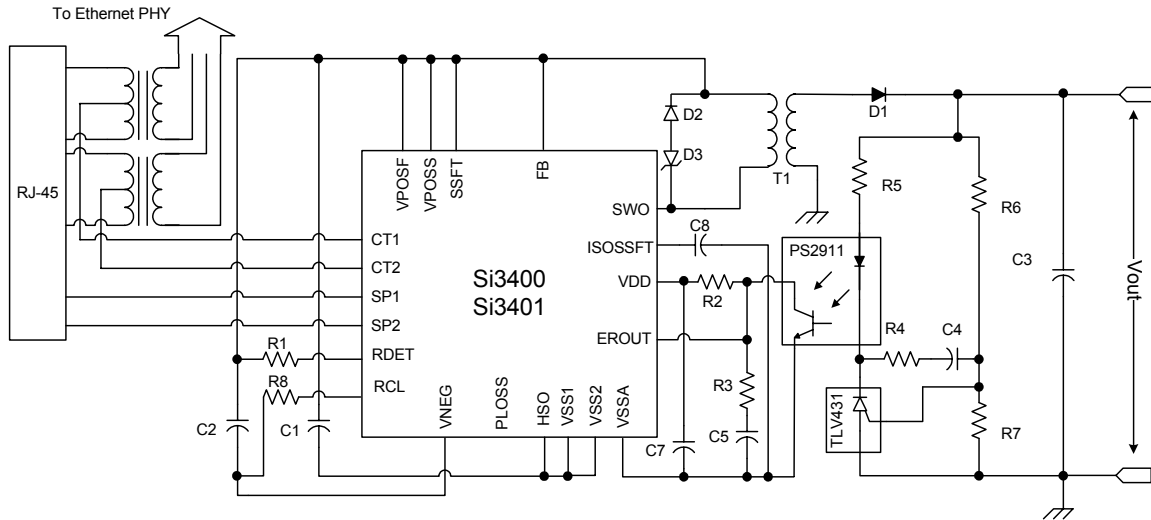

**Figure 1. Schematic—Class 0 with Non-Isolated 5 V Output\***
6. Applies to non-isolated applications only (VOUT on schematic in Figure 1).